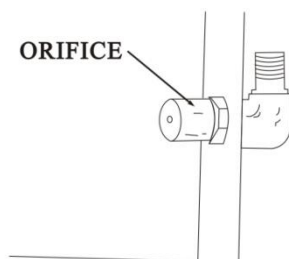
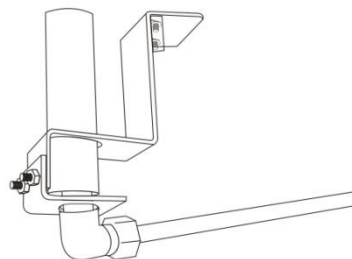

Figure 15
Figure 16
3. Replace the propane orifice (See Figure 15) with the natural gas orifice from the kit and reinstall the orifice holder by tightening the nuts as shown in Fig. 16. Reconnect and tighten the gas tube to the orifice.